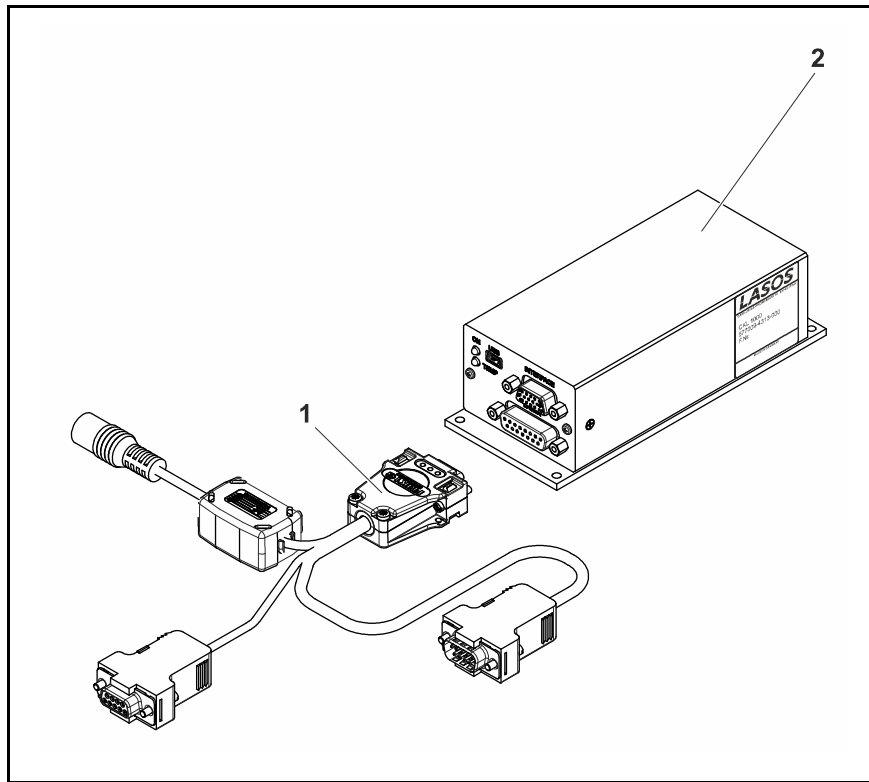

Fig. 16 Install Connection Cable CKL1000 at the SwitchBox
- Connect the Connection Cable CKL 1000 (15 pin HD D-Sub-female connector; Fig. 16/1) with the SwitchBox (15-pin HD D-Sub male connector Fig. 16/2).